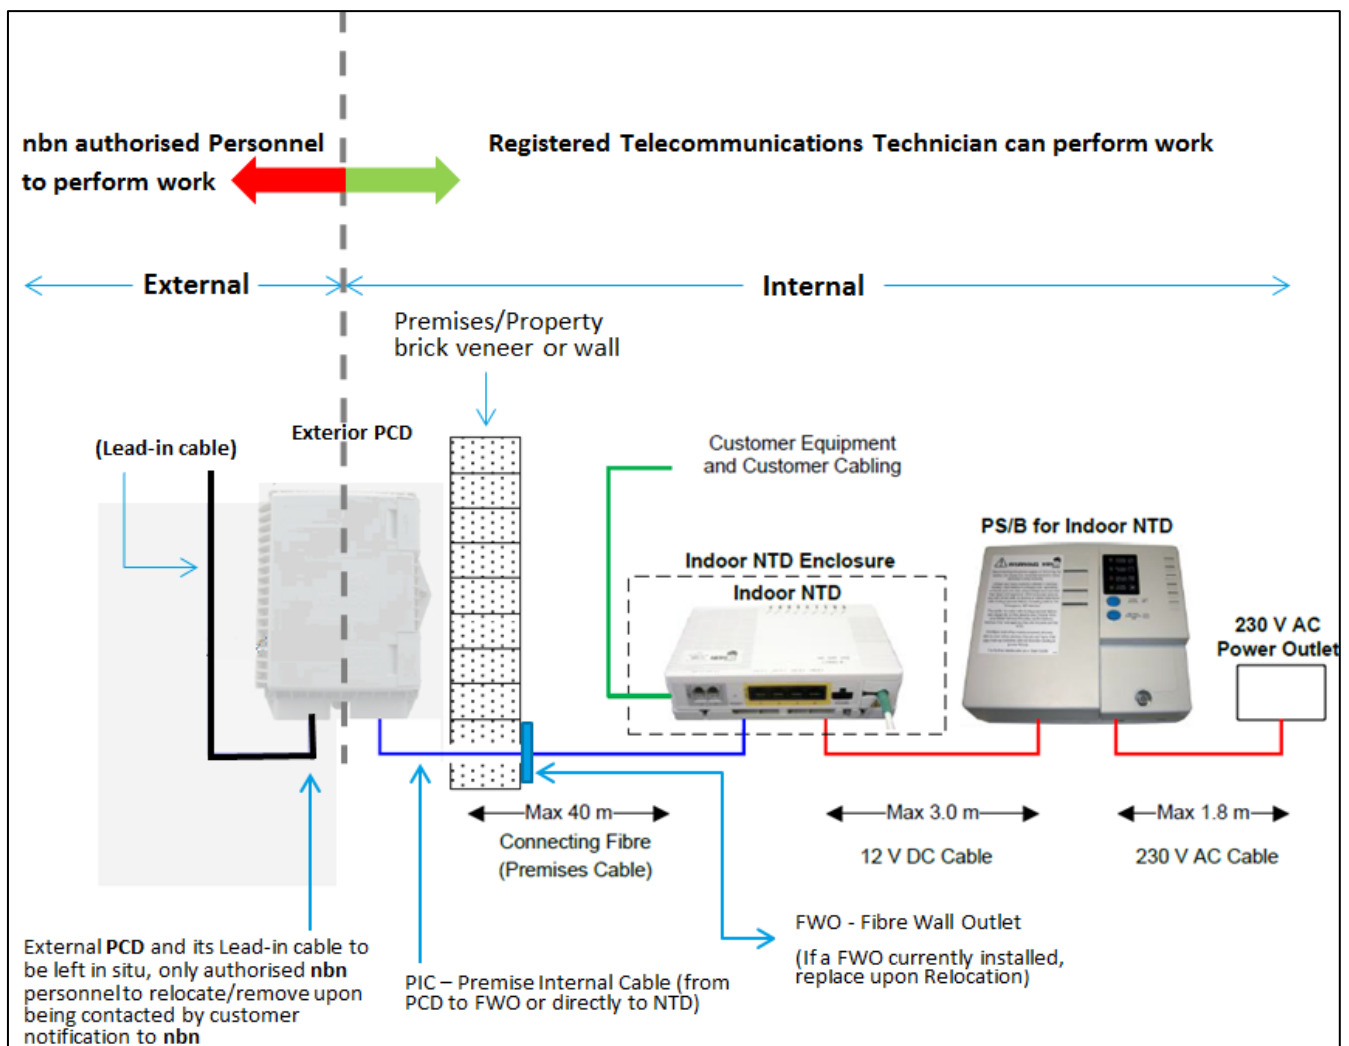
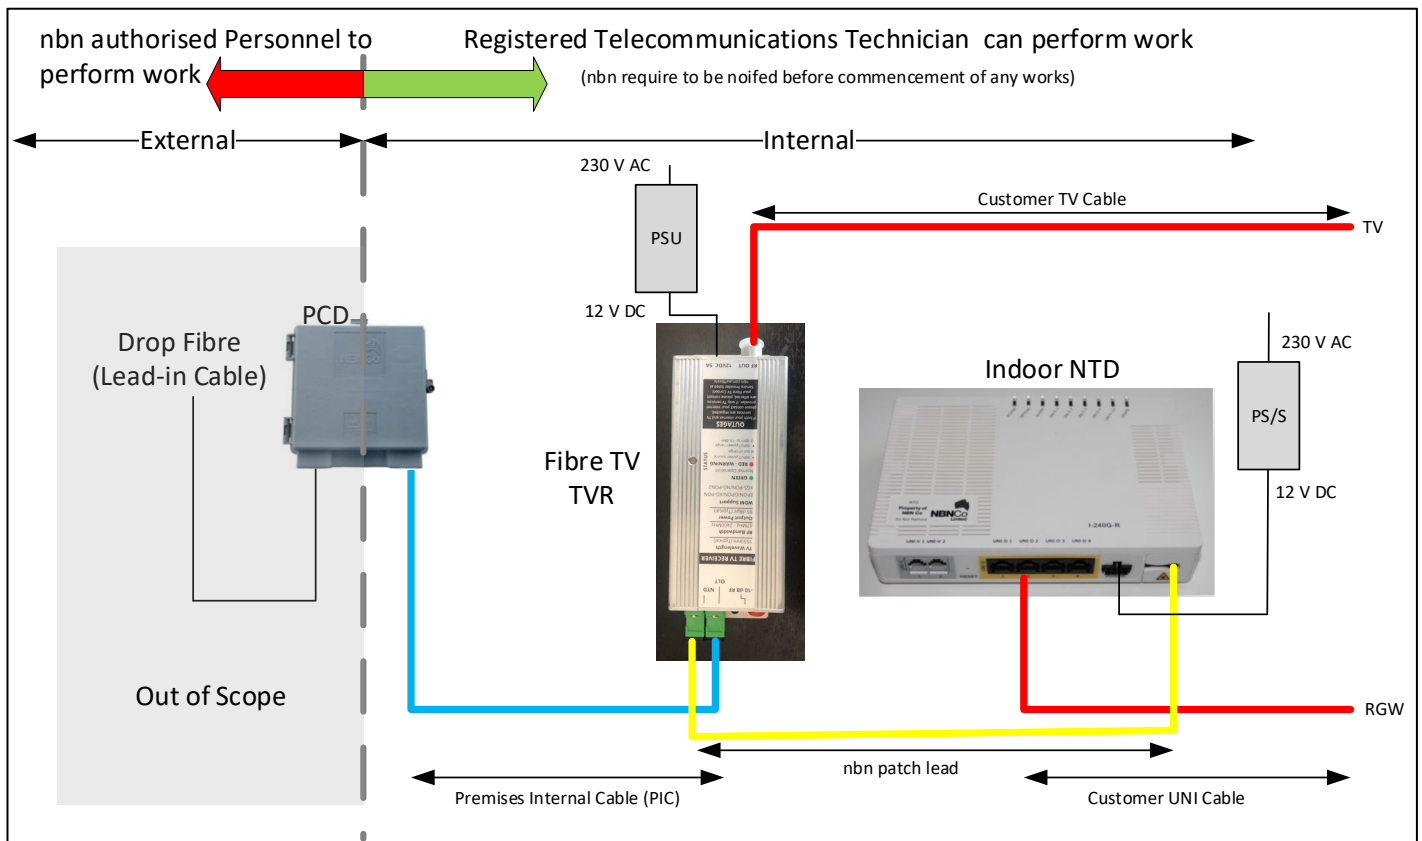

Figure 35. nbn Internal NTD with PS/B Power Unit
Figure 43. Fibre TV TVR with Indoor NTD
- replace, relocate or otherwise alter the nbn[®] fibre within premises for renovation, demolition or relocation of the building subject to the boundaries identified in Figure 35 through to Figure 43